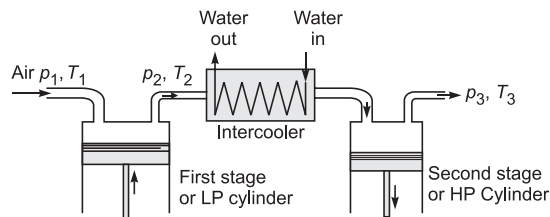
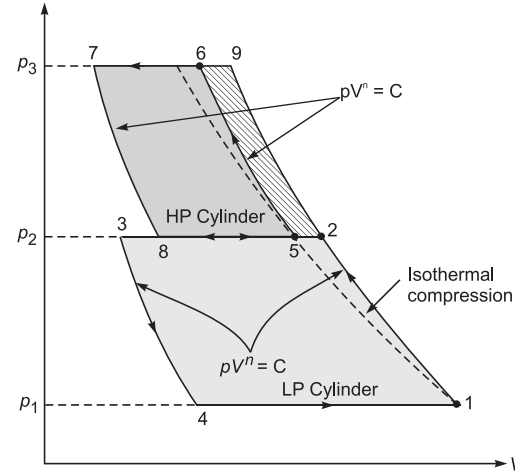

Fig. 25.18 Two stage compression with intercooler
Fig. 25.19 Indicator diagram for two-stage compressor
Figure 25.18 shows a schematic for two-stage compression. The air at p_1 and T_1 is first drawn into the first stage or low pressure (LP) cylinder. It is partially compressed to some intermediate pressure, p_2 and temperature T_2 and is then discharged to an intercooler which ideally cools the air to its initial temperature T_1 . The cooled air then enters the second stage or high pressure (HP) cylinder and is compressed to a delivery pressure p_3 and temperature T_3 . The corresponding indicator diagram is shown on a p - V plane in Fig. 25.19.